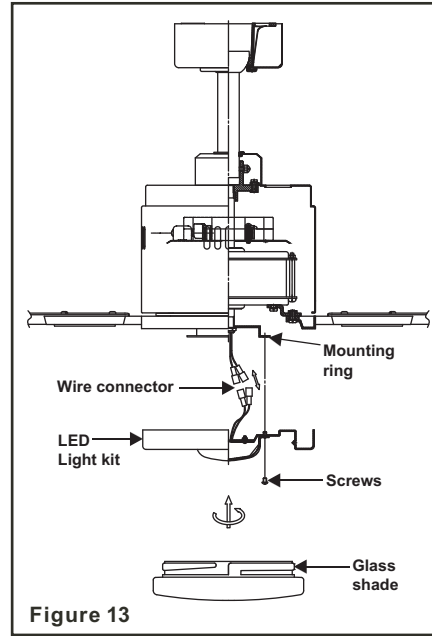

Figure 13
Step 1. Remove the 1 of 3 screws from the posts of the mounting ring and keep it for future use. Loosen the other 2 screws. (Do not remove) (Fig. 13)
Step 3. Place the key holes in the LED light kit over the two screws previously loosened from the mounting ring. Turn the LED light kit until the LED light kit locks in place at the narrow section of the key holes. (Fig. 13)
Step 4. Securely tighten the two light kit mounting screws previously loosened and the one previously removed. (Fig. 13)
Step 5. Raise glass shade up against the LED light kit, and secure it to fan by turning glass clockwise until snug. DO NOT OVERTIGHTEN. (Fig. 13)